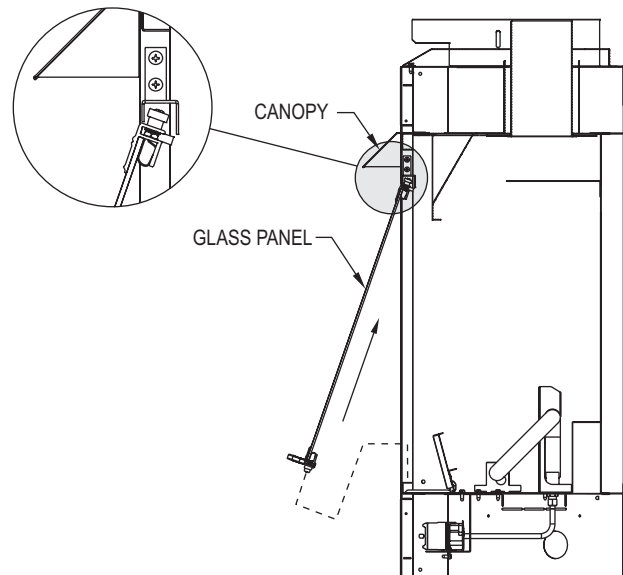

Figure 3
Step 4) Install the door assembly as shown in Figure 3. Grasp the door so that the handles are at the bottom.